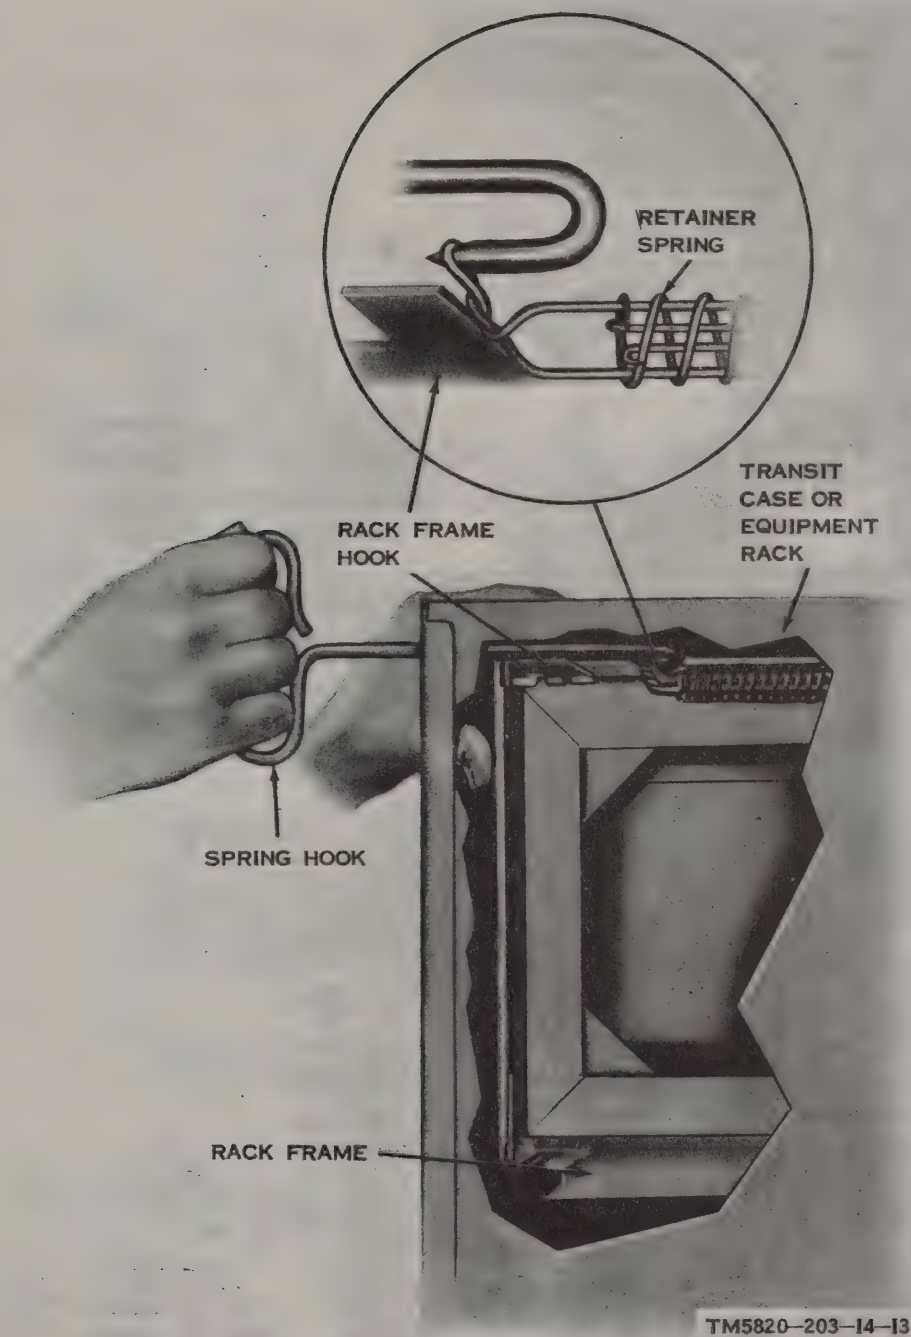

Figure 2-3. Use of spring hook to secure rack frame in equipment rack.
- (b) Use the spring hook (fig. 1-10) to disengage the retainer spring from the hook at each corner of the rack frame (fig. 2-3). Remove the rack frame from the transit case, insert it into the appropriate equipment mounting rack in the shelter facility, and secure it in place with the retainer springs from the transit case.